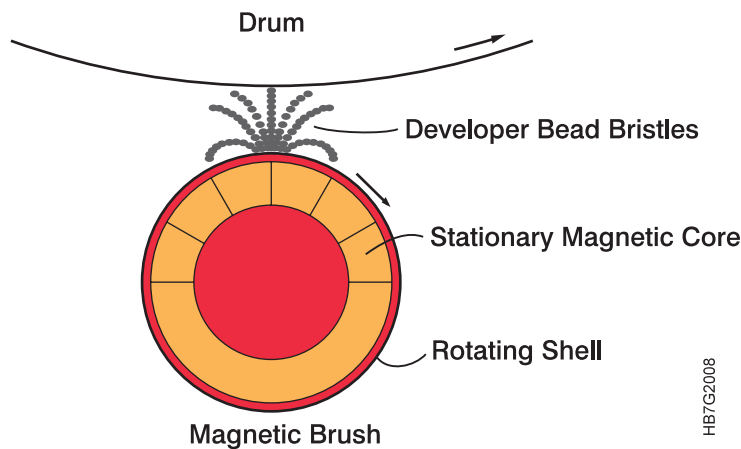

Figure 7. Attraction of Toner to the Drum
- A development unit develops the latent image by depositing toner particles on the drum. The development unit contains the developer, which is a mixture of toner and magnetizable carrier particles. When this mixture is stirred, the toner and carrier become electrically charged, causing the toner to stick to the carrier. The developer (toner plus carrier) is attracted to a magnetic roller and forms a magnetic brush (see Figure 7 on page 12).